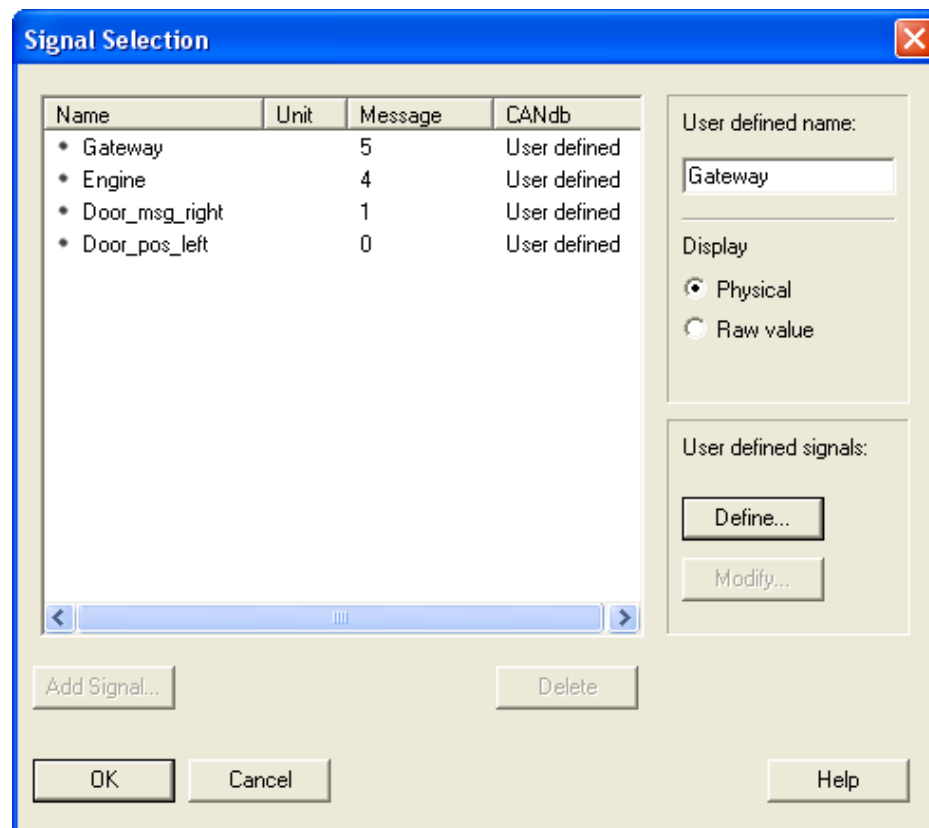

Figure 32. Signal selection window.
- Define three more signals and name them; Engine with ID=4, Door_msg_right with ID=1 and Door_pos_left with ID=0 as in Figure 32.